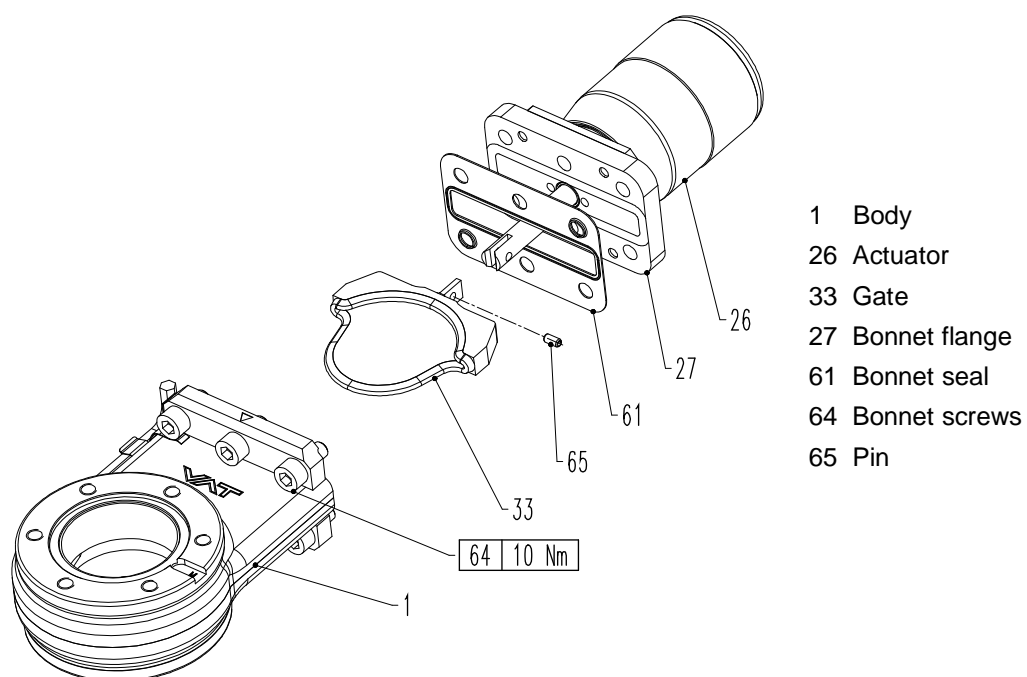

Figure 6-1
3. Remove bonnet screws (64); see «Figure 6-1» on page 15.
4. Withdraw actuator / mechanism unit carefully from body; see «Figure 6-1» on page 15.
5. Clean gate seal (33) and replace bonnet seal (61); see «Figure 6-1» on page 15.
6. Clean seat and bonnet seal surface of the valve body (1); see «Figure 6-1» on page 15, with cleanroom wiper.
8. Mount screws (64) according to «Figure 6-1» on page 15.
9. Tighten screws (64) in crosswise order (from inside to outside) with a torque of **10 Nm / 7.4 lbf · ft.**
14. Insert pin (65) using 3 mm punch tool.
15. Release tool (57) from shaft.
16. Make sure that pin (65) is fully inside the shaft and does not protrude.
17. Clean bonnet seal surface and replace bonnet seal (61); see «Figure 6-1» on page 15.
19. Mount screws (64) according to «Figure 6-1» on page 15.
20. Tighten screws (64) in crosswise order (from inside to outside) with a torque of **10 Nm / 7.4 lbf · ft.**